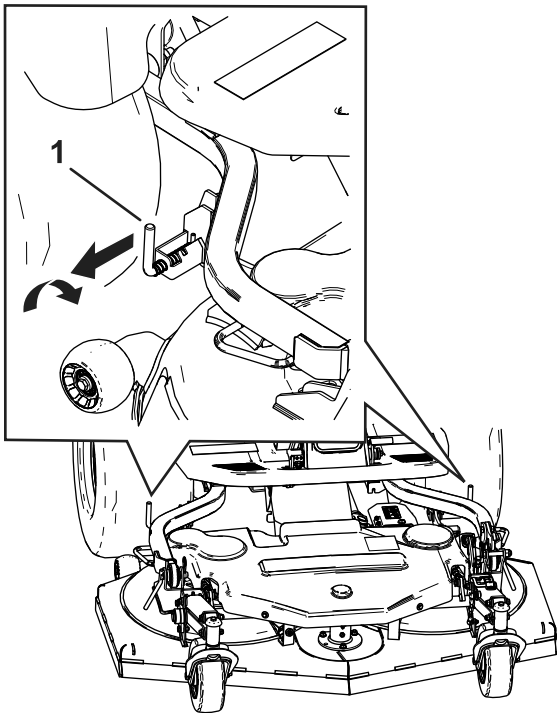

Figure 86
11. Confirm and ensure that the rear latch pins are engaged (Figure 86).
3. Before lowering the cutting unit, pull and rotate the rear link pins at both sides of the cutting unit (Figure 86).